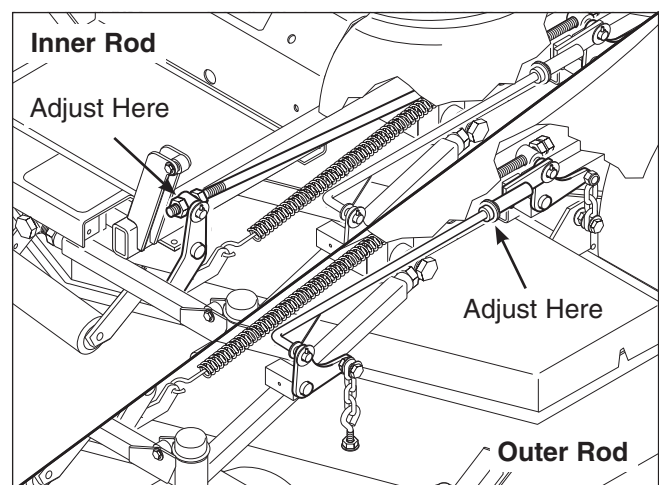

Figure 41. Adjust the Inner & Outer Lift Rods
8. Refer to Figure 41. To adjust the inner lift rod, adjust the 5/8" hex nuts on either side of the front lift pivot until the measurements are equal. Repeat for other side.
9. Refer to Figure 41. To adjust the outer lift rod, remove the coil pins securing the outer lift rod to the lift levers. Remove the outer lift rod from the unit and add or remove 5/8" SAE washers from in between the deck lift rod and the lift link until measurements are equal. Reinstall the coil pins and washer (on front lift lever). Repeat for other side.